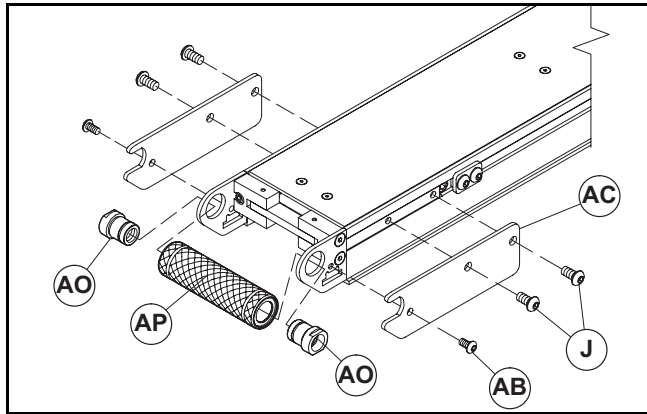
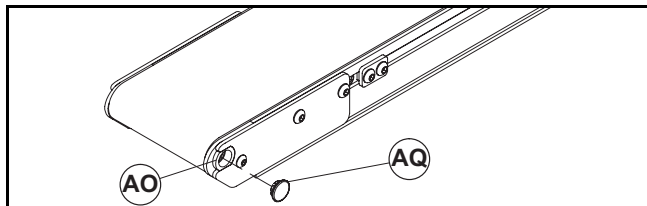
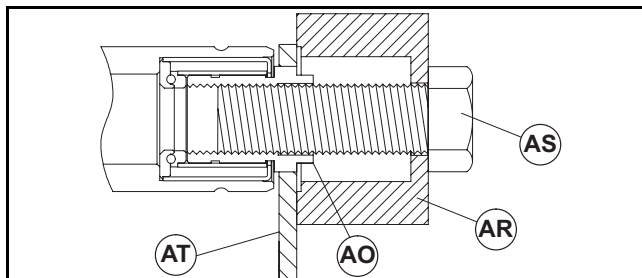
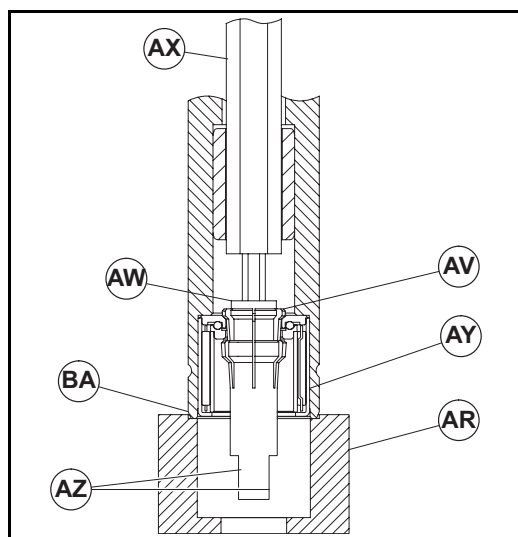

Figure 17
Figure 18
Figure 19
Figure 22
2. Remove tail cover plate screws (Figure 17, item J and AB) and tail cover plates (AC) on both sides of the conveyor.
3. Remove the retaining sleeves (AO) and pulley (AP). If retaining sleeves are frozen, continue with the next step.
4. All non-driven positions have a plastic plug (Figure 18, item AQ) installed into ends of pulley retaining sleeves (AO). Use a small flat screwdriver to remove these plugs.
5. Position bearing anvil/sleeve removal tool (Figure 19, item AR), part number §25-09, over retaining sleeve (Figure 17, item AO) and (Figure 19, item AO).
6. Insert special threaded bolt (Figure 19, item AS), part number §906-278, through bearing anvil/sleeve removal tool (AR) and thread into retaining sleeve (AO).
7. Tighten bolt (AS) until retaining sleeve (AO) is free of spindle tail plate (AT).
8. Remove retaining sleeve (AT) from the bolt (AS).
10. Remove pulley (AR) from conveyor frame.
1. Insert pulley (Figure 17, item AP) between the spindle tail plates (AT).
2. Slide the retaining sleeves (AO) through openings in the spindle tail plates and into the pulley on each side.
3. Install the plastic plug (Figure 18, item AQ) into the ends of the pulley retaining sleeves (AO).
4. Secure the tail cover plates (Figure 17, item AC) to the conveyor with screws (J and AB).
3. While holding hex key wrench extension tool (Figure 22, item AX), rotate bearing removal tool using flats (AZ) to tighten bearing removal tool's tapered screw (AW) until flair (AV) of tool is completely spread open inside bearing (AY).
4. Support pulley end (BA) with bearing anvil/sleeve removal tool (Figure 19, item AR) and (Figure 22, item AR), part number §25-09. Using an arbor press, push bearing (AY) out of the pulley into bearing anvil/sleeve removal tool (AR).
1. Support pulley (AP) in an upright position with "V" blocks or other means. Support bottom end of pulley using bearing anvil/sleeve removal tool (Figure 22, item AR).